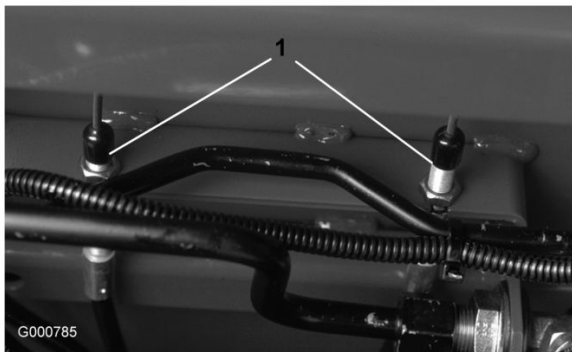

Figure 73
2. To reduce free travel of brake pedals, tighten the brakes by loosening the front nut on the threaded end of the brake cable (Figure 73). Then tighten rear nut to move cable backward until brake pedals have 1/2 to 1 inch of free travel. Tighten front nuts after brakes are adjusted correctly.